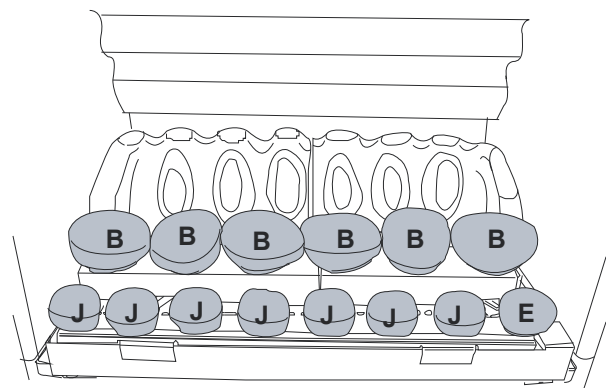

Figure 32
4. Insert the **J & E** pebbles centrally onto the spikes and place the **B** pebbles on the middle matrix ensuring the same orientation as shown in **Figure 32**.